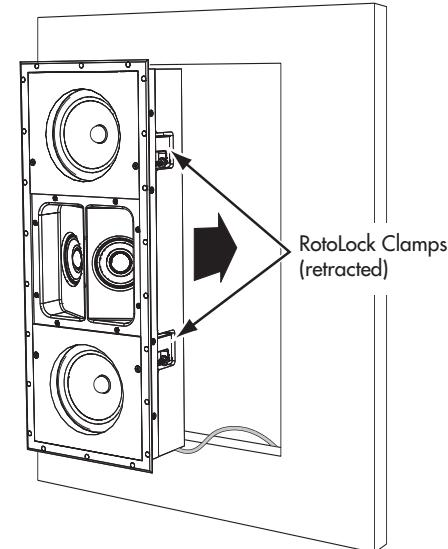

FIGURE 5: INSERTING THE SPEAKER INTO THE MOUNTING HOLE
- Make sure all the RotoLock clamps are fully retracted into their recesses in the speaker box. Insert the speaker into the hole in the wall (see *Figure 5*, next column). The RotoLock system can accommodate a maximum wall material thickness of $1\frac{1}{4}$ ”.